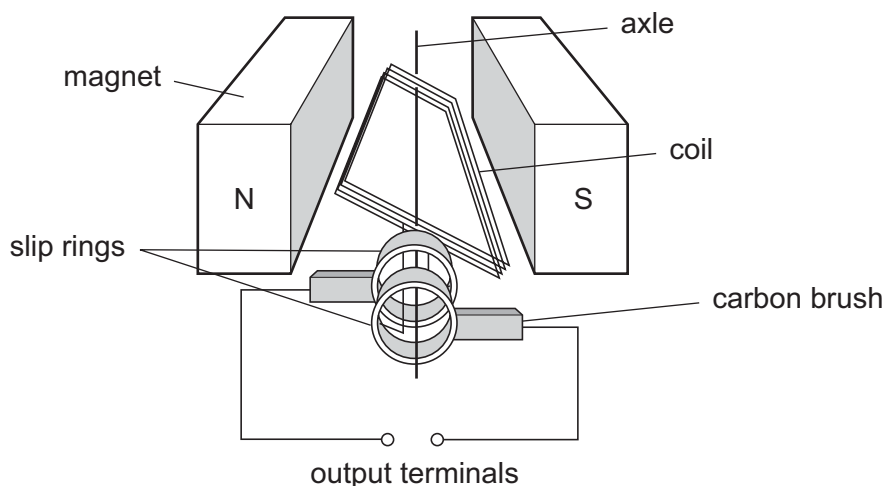

Fig. 5.1
- 5 (a) Fig. 5.1 illustrates a simple alternating current generator.